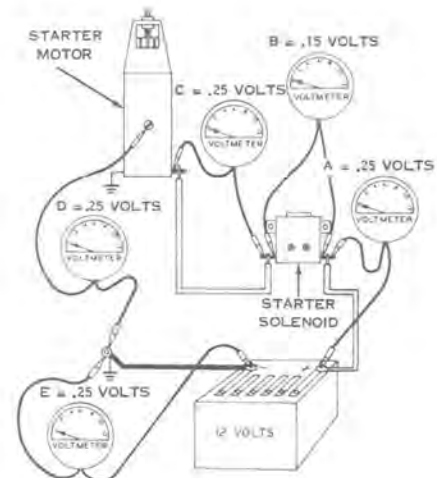

Figure 7-42
- a. By making a systematic check from the positive battery terminal, through the starting circuit and back to the negative battery terminal, any component or electrical connection having excessive resistance, thus causing high voltage drop and subsequent hard starting, can be pinpointed (see Figure 7-42).